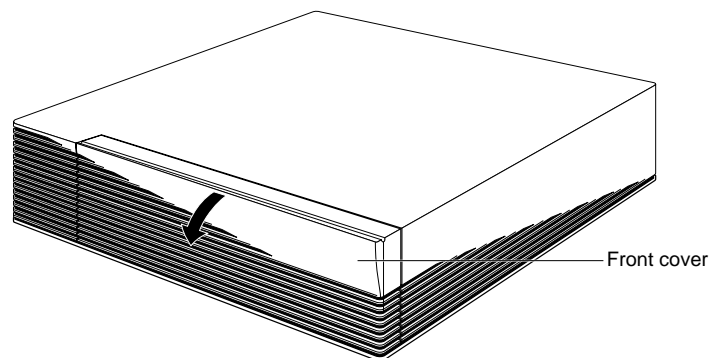

Figure B-1 Opening the Door on the Front of the Indigo² Workstation
- Open the door on the front of the Indigo² by snapping it away from the top edge of the chassis and tipping it down, as shown in Figure B-1.